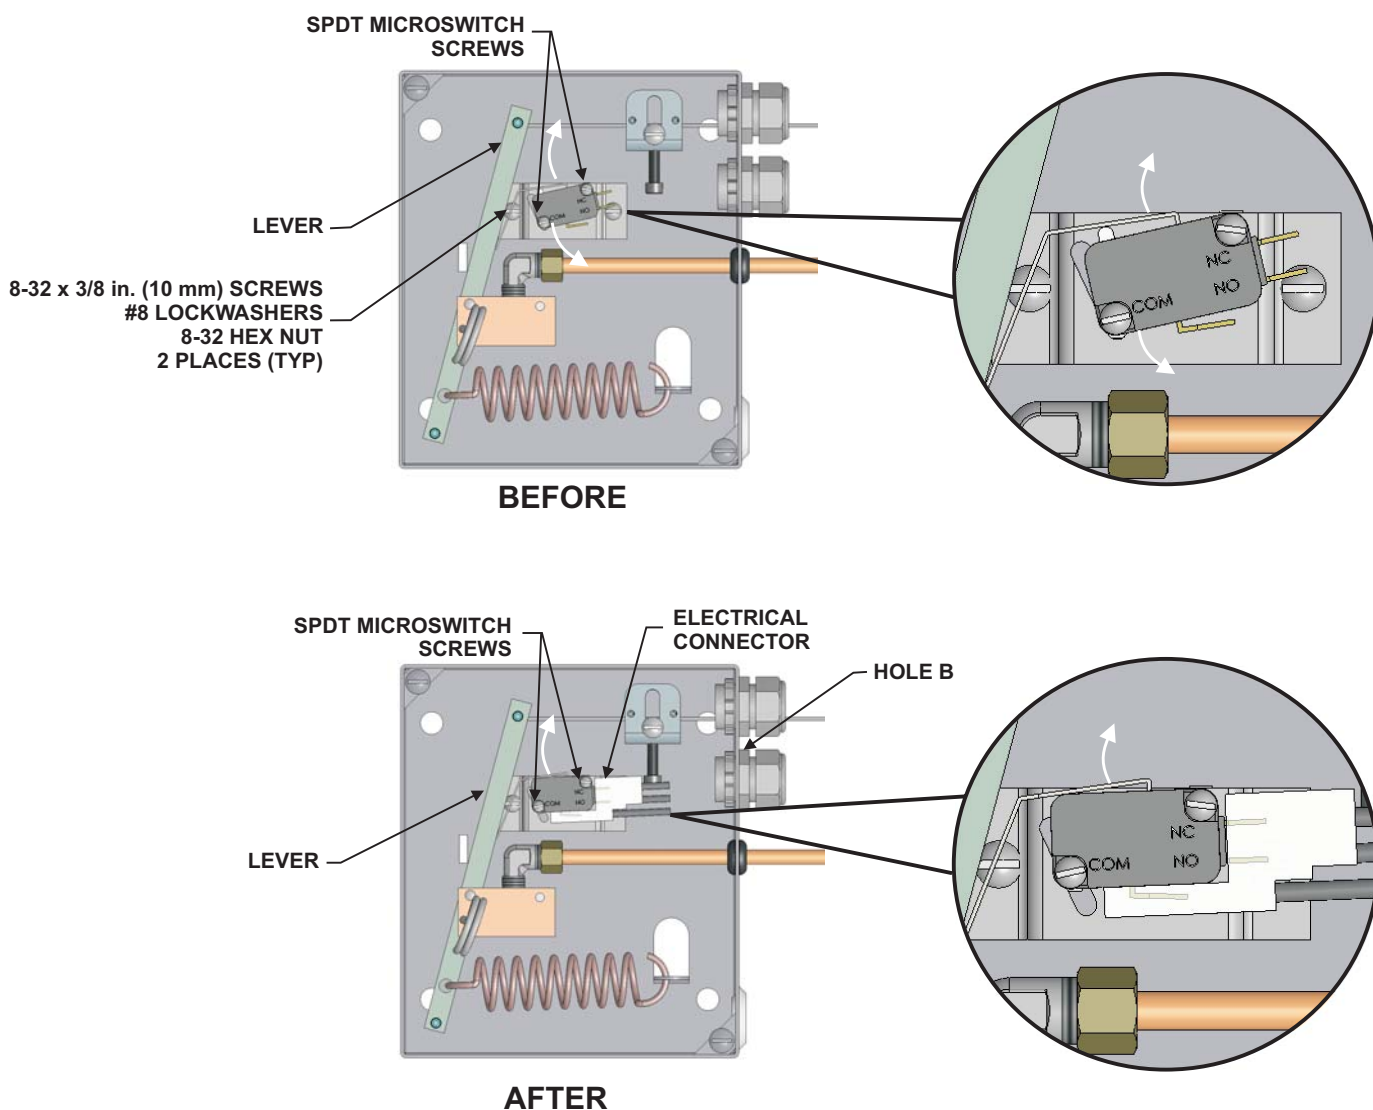

Figure 4-47. Single SPDT Microswitch Adjustment
6. After tensioning the detection cable, rotate the microswitch towards the lever until the microswitch is heard to click (Figure 4-47).
7. Continue moving the microswitch toward the lever until the paddle on the microswitch just touches the top corner of the microswitch body (Figure 4-47). The microswitch is now in the "set" position.